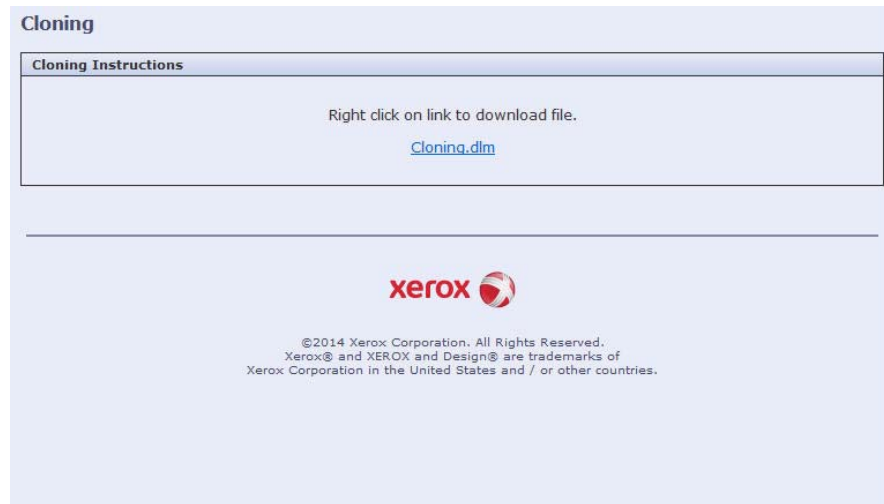

Figure 2 Save the clone file
2. Right click on **Cloning.dlm** to save the clone file as shown in Figure 2.